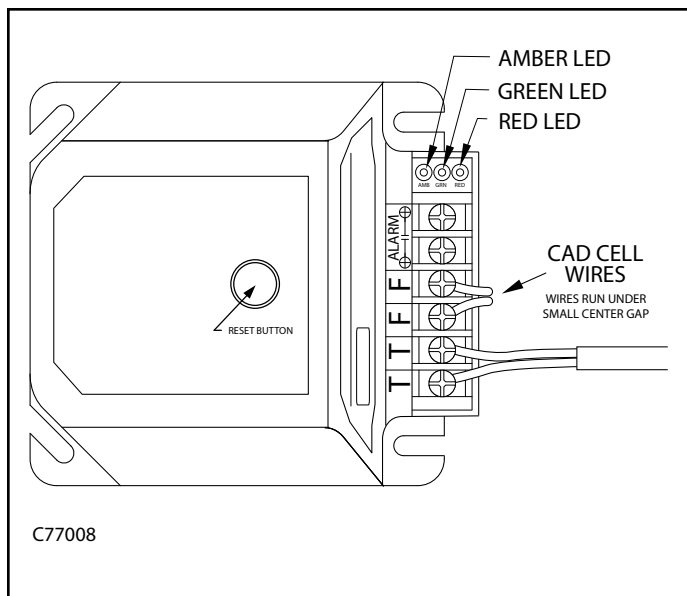

FIGURE 7A - Oil Primary Control
1. Refer to Figure 7A.
ATTENTION: *Never touch a jumper wire from an "F" terminal to a "T" terminal on the oil primary control. This will severely damage your primary control. Make sure the plastic barrier strip is in place between the "F" and "T" terminals as shown in Figure 7A.*